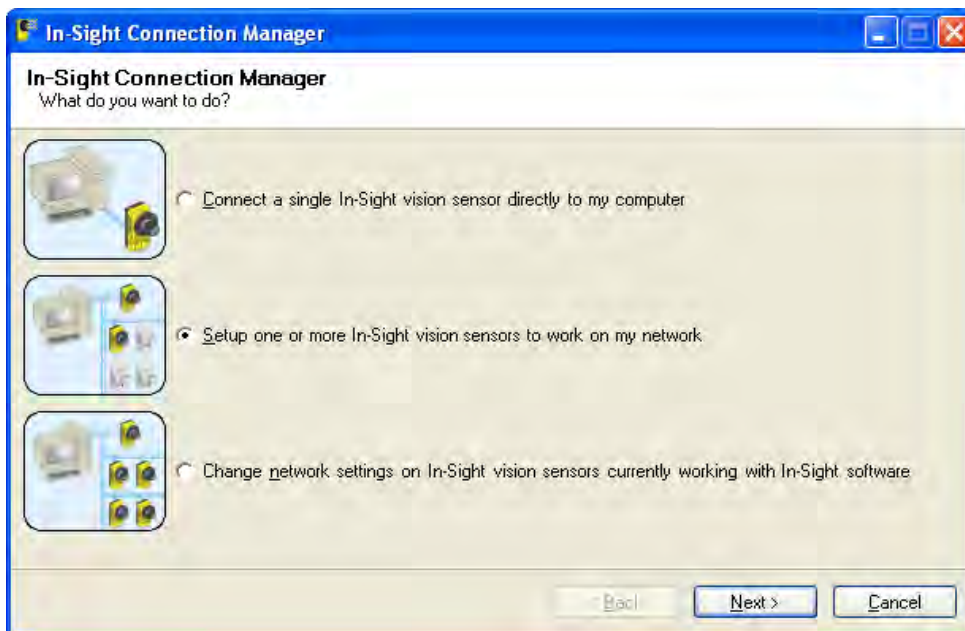

Figure 4-1: In-Sight Connection Manager Dialog
3. Select the second option, "Setup one or more In-Sight vision sensors to work on my network" (Figure 4-1).